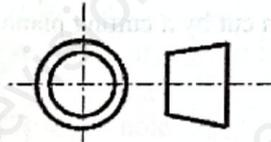

Figure 10
15. Figure 10 below is the symbol for